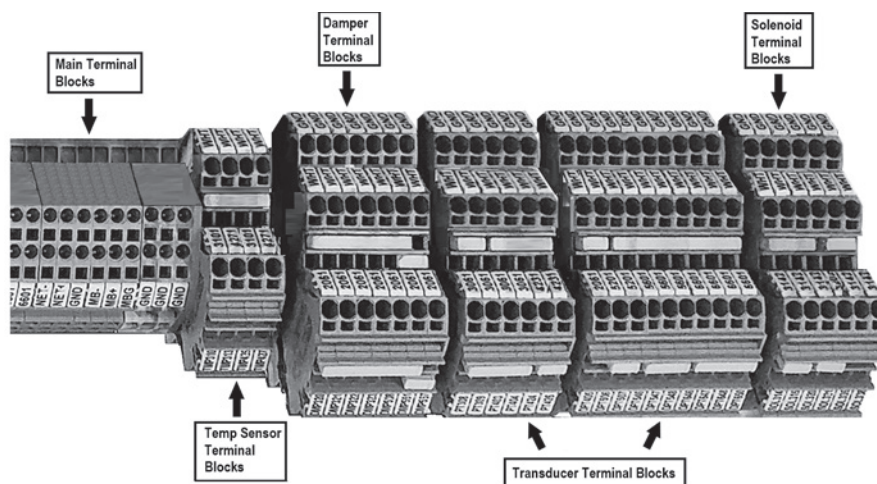

Figure 40 – Terminal Blocks
- Some wires from harnesses will be wired to the “High Voltage Field Connections” terminal block as shown in Figure 40. Connect to the corresponding terminal block ID #.
- Connect cable to the corresponding multi-tier terminal block as shown in Figure 40. (e.g. SOL217)